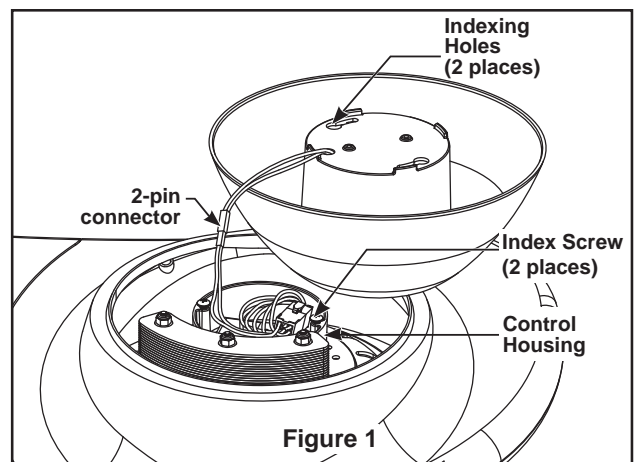

Figure 1
3. Assemble the Lower Cover Assembly by connecting the 2-pin (black & white wires) socket connector to the plug connector (blue & white wires). Be sure the connector wires are inside the Control Housing before assembling the Lower Cover Assembly. (Figure 1)
4. Locate and loosen two Indexing Screws located on the Control Housing. (Figure 1) Line up the indexing holes over the screws, secure by twisting the Lower Cover Assembly clockwise and tighten the two indexing screws. (Figure 2)